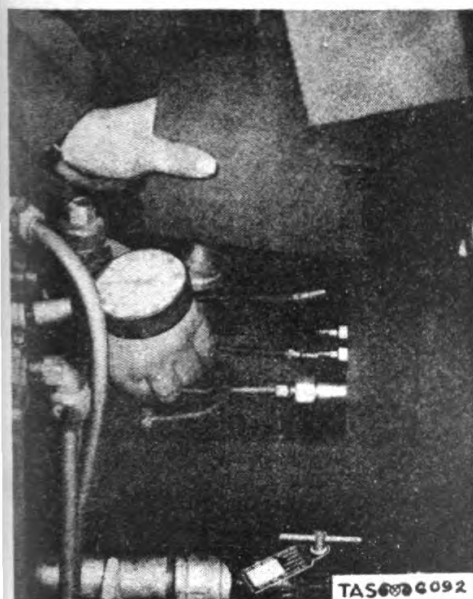

Fig. 92. Removing Air Tube Cover.
1. Remove screws holding cover of air tube. Remove air tube cover. This exposes combustion head assembly. (See fig. 92.)